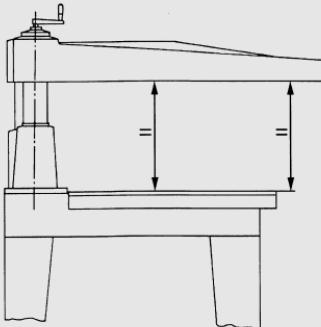

Fig.11
- 2) The brackets must be both levelled and at the same distance from the arm. To do this, take advantage of the movability of the arm as shown in figures 11 and 12. Take the measurements while the arm is over the brackets. If necessary, loosen screws (16)